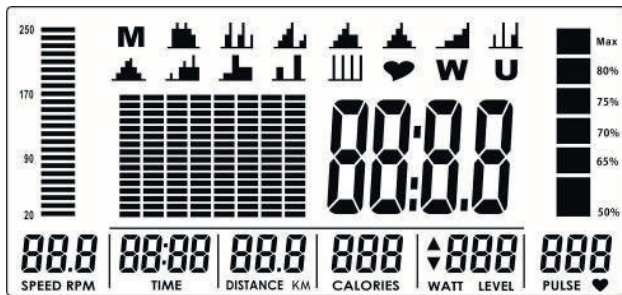

Figure 1
*The console turns on and shows all segments of the LCD display for two seconds. (Fig. 1).*
1. Choose the target programme (M) and confirm your choice with the encoder.
2. Choose the resistance level with the encoder and confirm your entry with the encoder (Fig. 1).